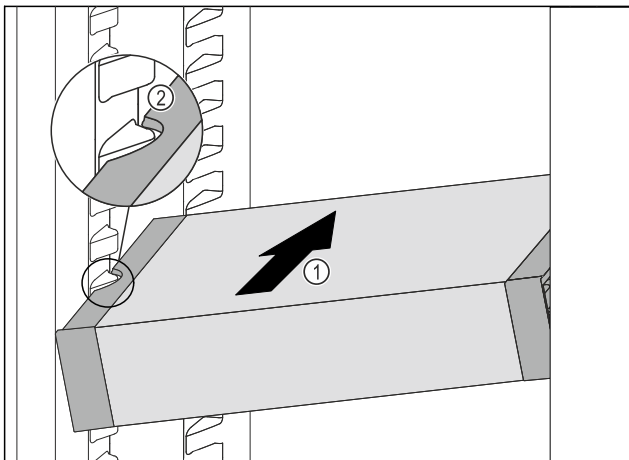

Fig. 136
- ▶ Insert the VarioSafe into the fridge section at an angle Fig. 136 (1) until the recesses in the side Fig. 136 (2) of the VarioSafe are at the level of the support rib in the fridge section.